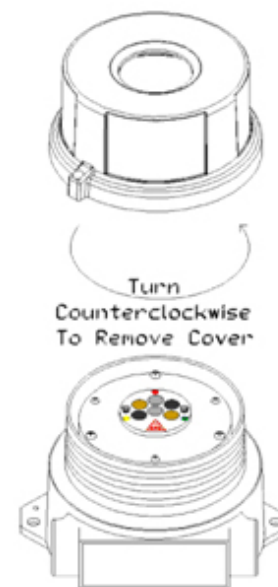

Figure 2-7
2. Turn counterclockwise (CCW) to unscrew the enclosure lid (see *Figure 2-7*).